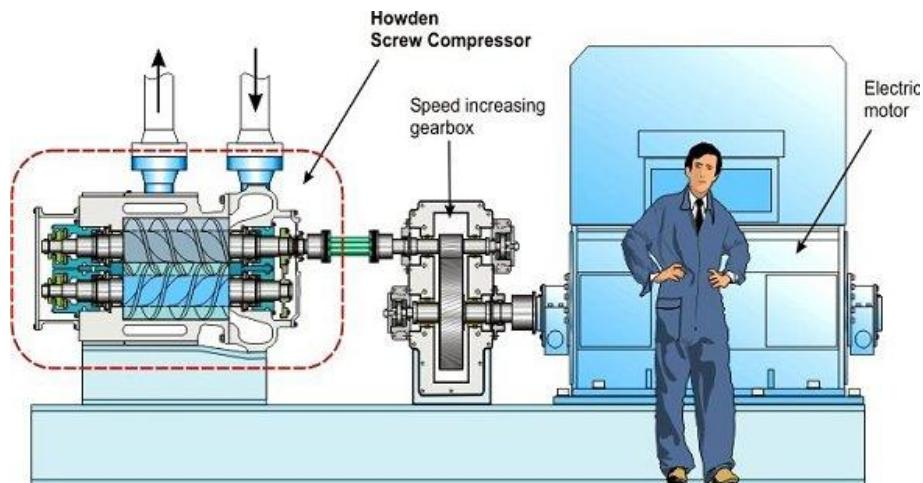

Figure 6/Rajah 6
6. **Figure 6** shows a screw compressor unit which is commonly used in large manufacturing plant. As the engineer you are requested to come up with machine condition monitoring (MCM) plan based on vibration monitoring in order to ensure uninterrupted supply of compressed air and any shut down for maintenance can be carried out in an orderly and planned manner. In your proposal please indicate the following: